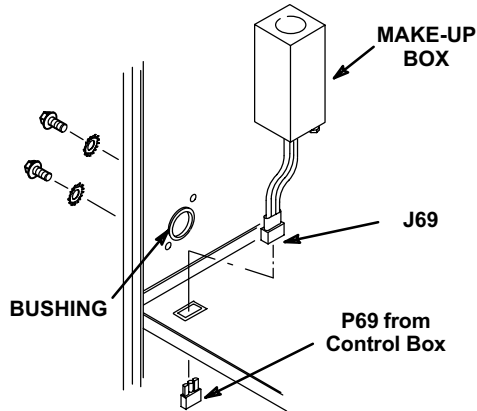

FIGURE 25
A field make-up box is provided for line voltage wiring. Line voltage wiring to unit is done through the J69 jack from the field make-up box to plug P69 from the control box. See figures 25 and 26 for make-up box installation.
- 4 - Install field make-up box on either side, inside or out of the cabinet. Knockouts are provided in box and cabinet to facilitate wiring. See figures 25 and 26.